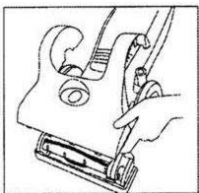

Fig. 1
- Use a Phillips screwdriver and remove the two screws from the back of the motorized power head cover. (Fig. 1)